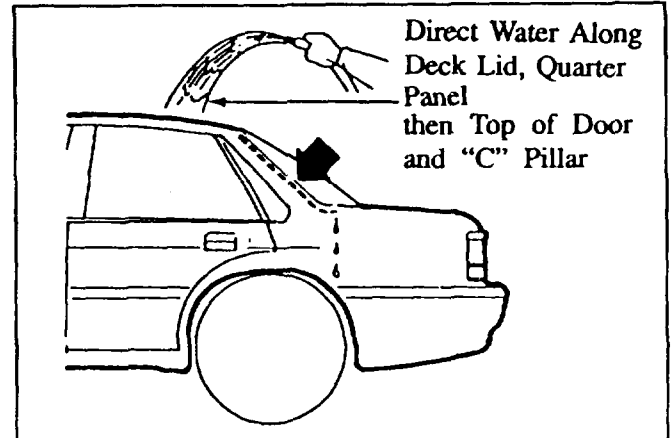

Figure 17: Locating Source of Rear Water Leak
5. Have an assistant direct the water stream over the entire rear of the vehicle, concentrating on the following areas: **Figure 17.**
Note: Direct a heavy stream of water where the rocker panel meets the inner wheel well (to check for leakage into the rocker panel). **Figure 17.**